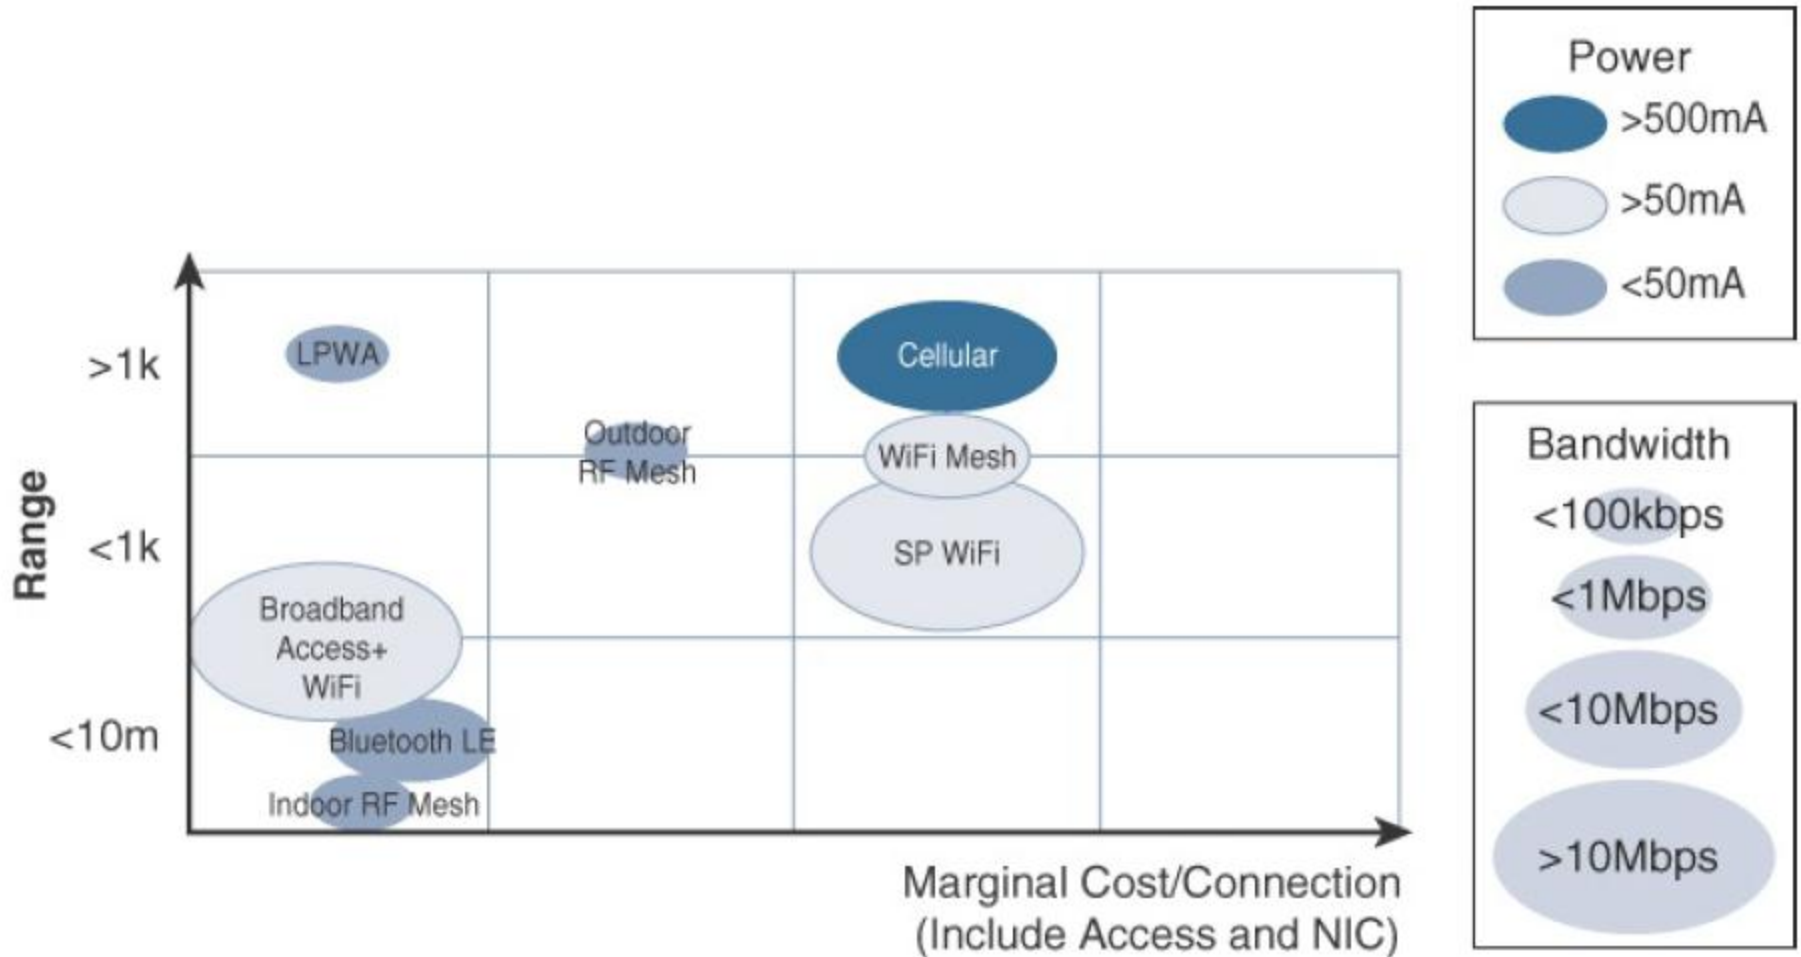

Figure 2.11 : Comparison Between Common Last-Mile Technologies in Terms of Range Versus Cost, Power, and Bandwidth
- Figure 2.11 combines cost, range, power consumption, and typical available bandwidth for common IoT access technologies.